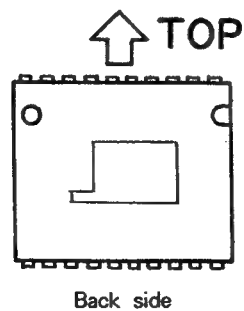

Figure 5 CCD direction
- (6) After replacement, install a CCD imager with the hole on the back of it facing upward. (See Figure 5.)